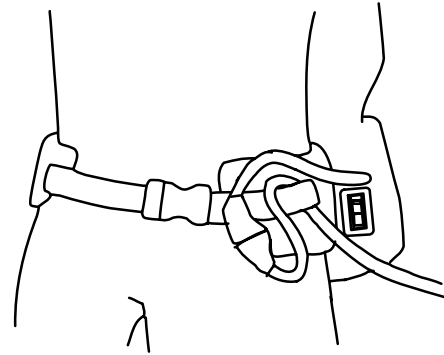

FIG. 5
7. Check the wear on the cord by the vacuum body and at the plug. Place the extension cord between the waist belt's strap and padded area to signal you if you have run out of cord while vacuuming (Figure 5).